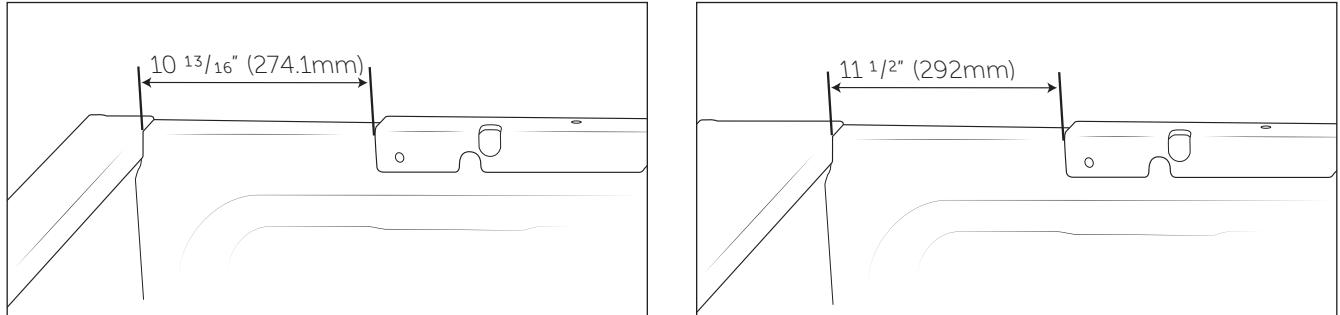

Figure 3: Standard Bed (left) Ram Box Bed (right)
1. Place the Bulkhead Bracket into position **approximately** $10 \frac{13}{16}$ " (standard bed) or $11 \frac{1}{2}$ " (Ram Box bed) from plastic bed rail (fig. 3). NOTE: This measurement is for **REFERENCE ONLY**. Step 3 will help in final alignment.